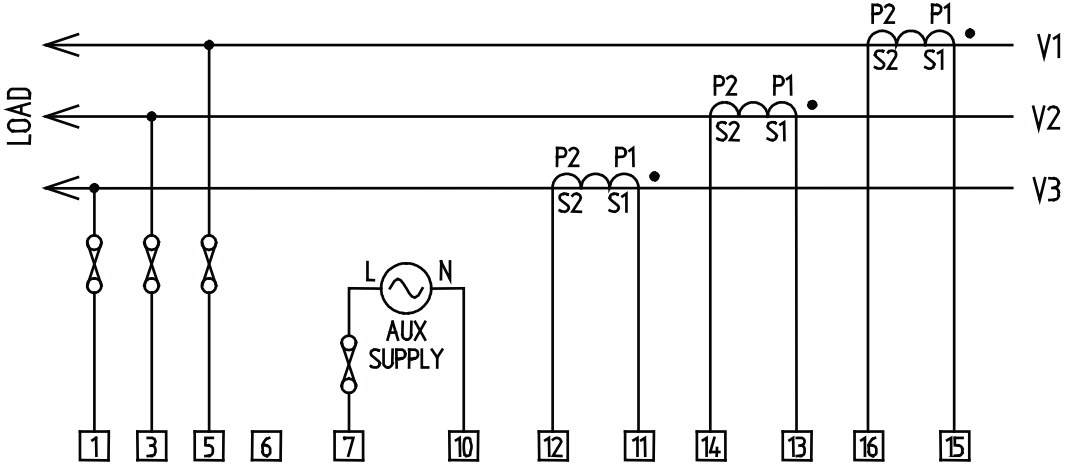

Figure 4-3 3-Phase 3-Wire 3CTs (See Note 2)
**Note 1:** It is possible to use 3 current transformers in conjunction with potential transformers. Refer to Figure 4-3 for details of CT connection.